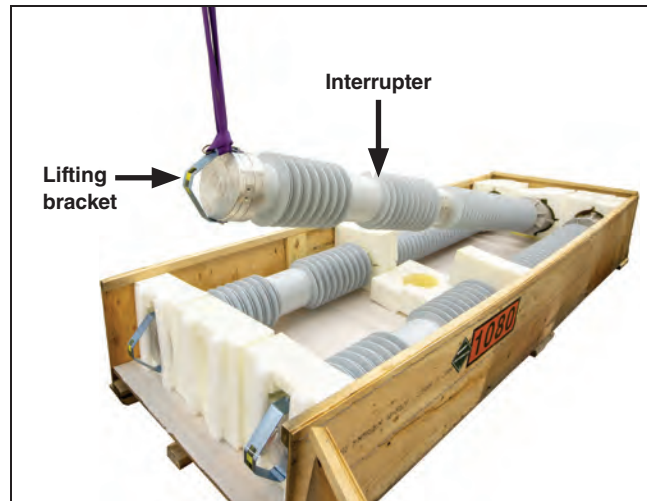
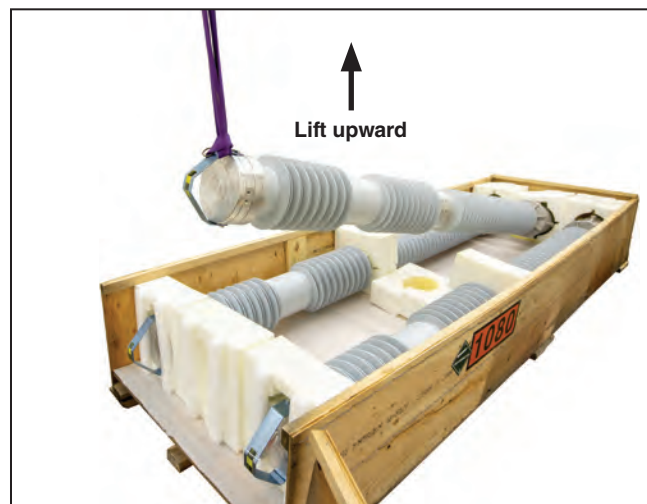
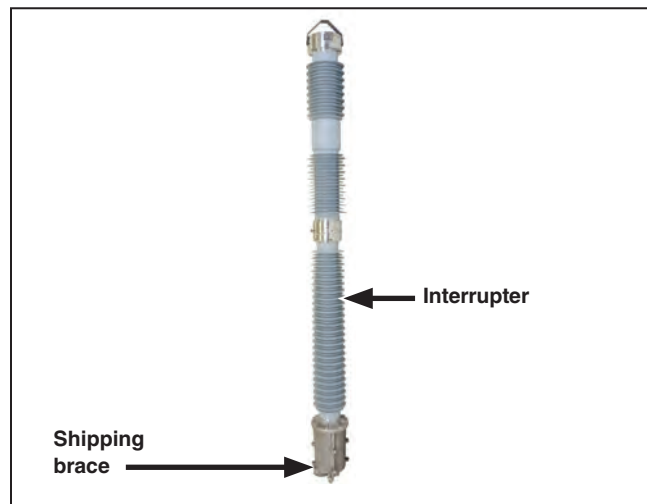

Figure 7. Lift the interrupter only by the lifting bracket.
Figure 8. Lift the interrupter carefully upward.
Figure 9. Do not remove the shipping brace at this time.
- (b) Carefully raise the interrupter upward. The foam wrappings around the top, mid-section, and base should come off as the interrupter is lifted. Remove these wrappings if they do not come off by themselves. Do not remove the shipping brace at this time. See Figure 7, Figure 8, and Figure 9.